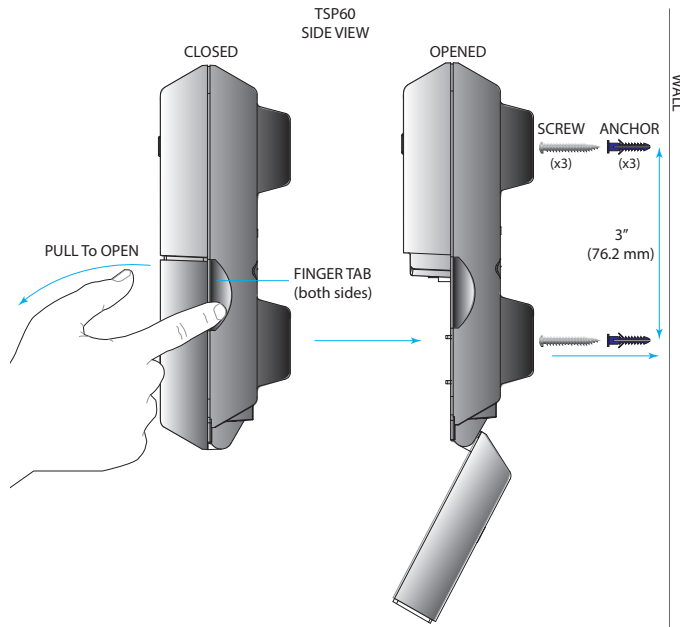

Fig. 2.1
- 10** Mount the TSP60 using the three mounting keyholes at the rear of the unit. The two lower keyholes can be accessed by opening the lower front cover of the housing. The latch is magnetic, use the finger tabs on both sides and pull back from the housing to open (see Fig. 2.1).